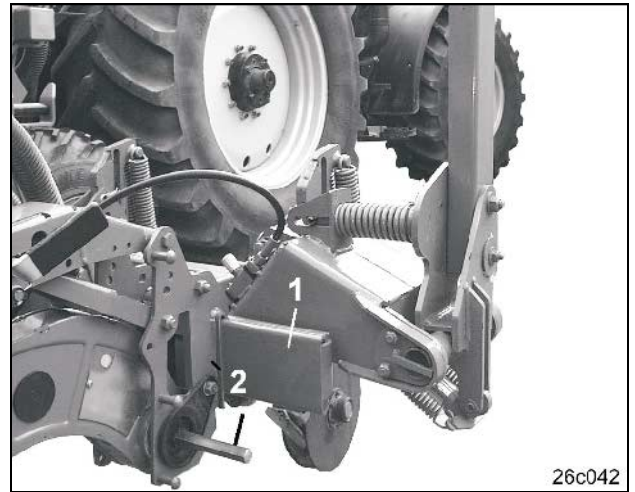
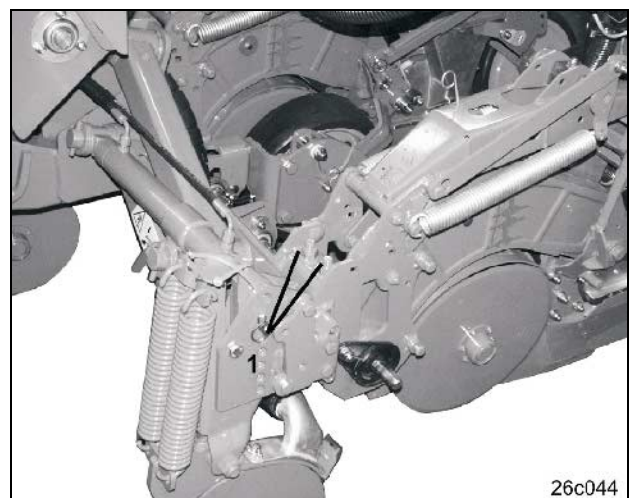

Fig. 61
Fig. 63
- Slacken the nuts (Fig. 63/1) of the fixing clamps. Move the sowing units on the clamping rail (Fig. 61/1) as desired.
- Tighten nuts (Fig. 63/1).